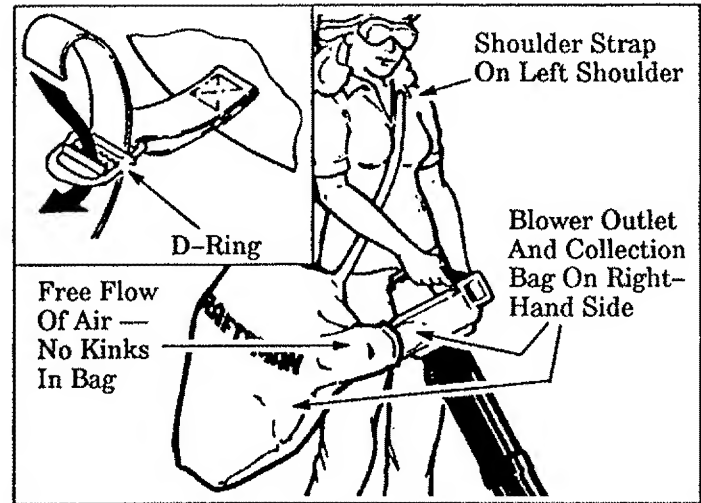

Figure 6
1. With your left hand hold the unit in an upright position, supporting the Lower Vacuum Tube on the ground. Make sure the Blower Outlet and Collection Bag are positioned on your right-hand side. Figure 6.
2. Place the Collection Bag Strap over your left shoulder. Figure 6.
3. Adjust the Shoulder Strap to allow a free flow of air from the blower outlet. Figure 6. If the Bag is kinked, the unit will not operate properly.